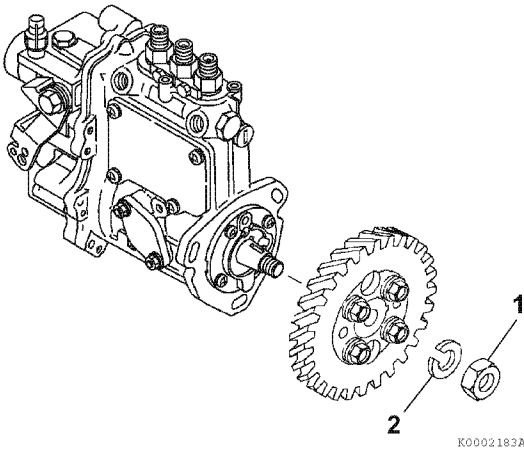

Figure 7-19
18. Once the fuel injection pump drive gear and hub assembly have “popped” loose from the tapered fuel injection pump drive shaft, carefully remove the drive gear nut (Figure 7-19, (1)) and lock washer (Figure 7-19, (2)).